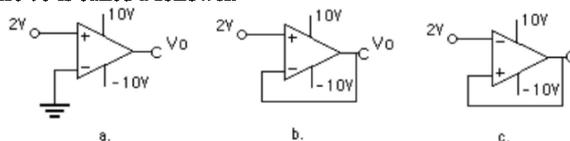

Figure 7: Op-amp circuits
- For which circuits of Figure 7 do the op-amp rules given above apply? If they do not, explain. What is the output voltage of each circuit? Note that the circuit of Figure 7b is called a follower.